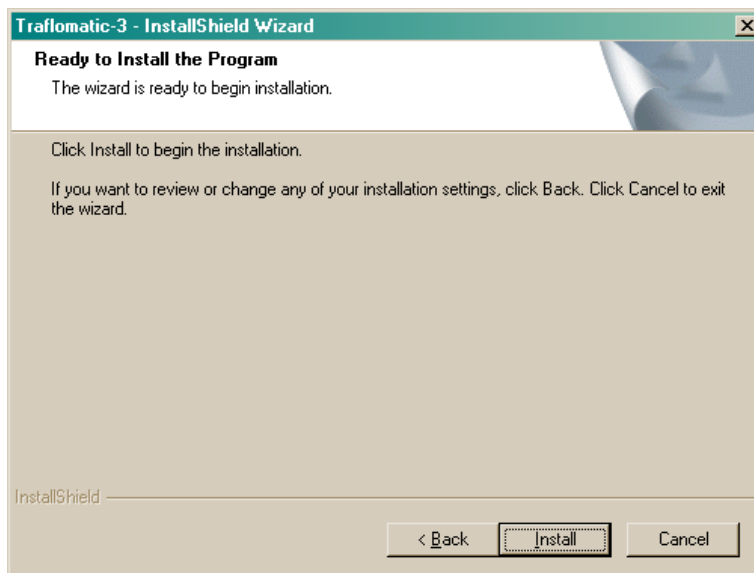

Figure 9
5. The **Ready to Install the Program** window will now appear as in Figure 9. This window informs the user that the installation is ready to begin and instructs the user to select the **Install** pushbutton to begin the software installation process. At this time select the **Install** pushbutton with the PC's pointing device.